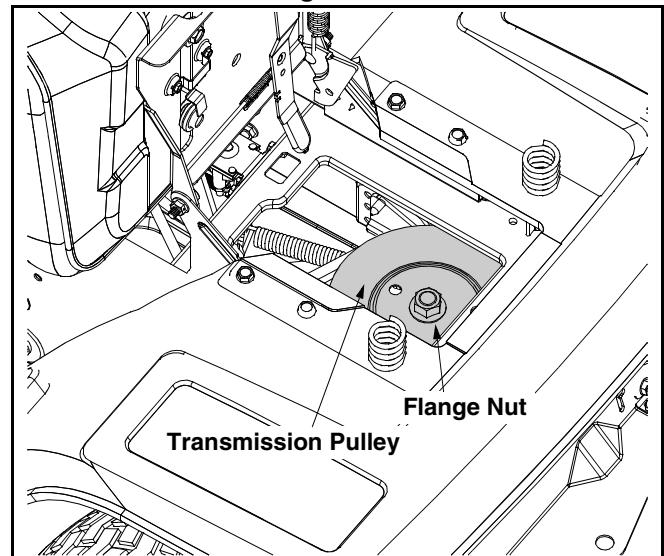

Figure 33
- Locate the transmission pulley through the battery tray opening. See Figure 33.